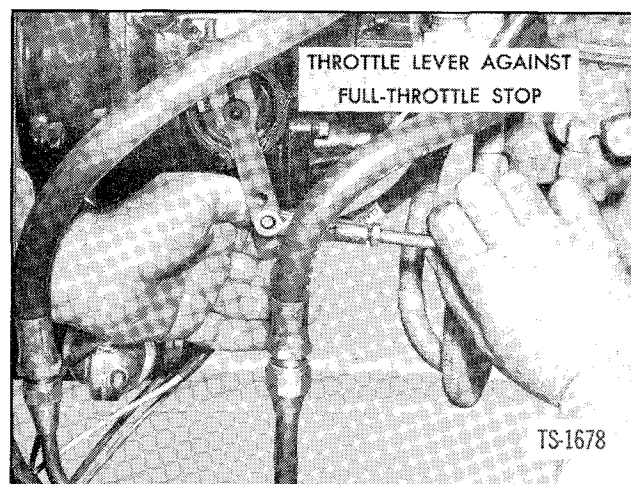

Fig. 33. Adjust Throttle Linkage (Cummins Diesel)
1. Disconnect clevis from throttle lever on fuel pump, and rotate lever to full throttle position as shown in Figure 33.